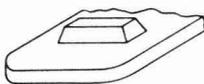

FIG. 27
5.03 Pits: Fig. 27 represents a nonpitted bar-type contact. Fig. 28 and 29 illustrate progressive stages of pitting. Fig. 28 illustrates a pitted contact which can be reconditioned, and Fig. 29, a pitted contact where replacement is necessary, Fig. 30, 31, and 32 illustrate corresponding conditions for a disc-type contact.